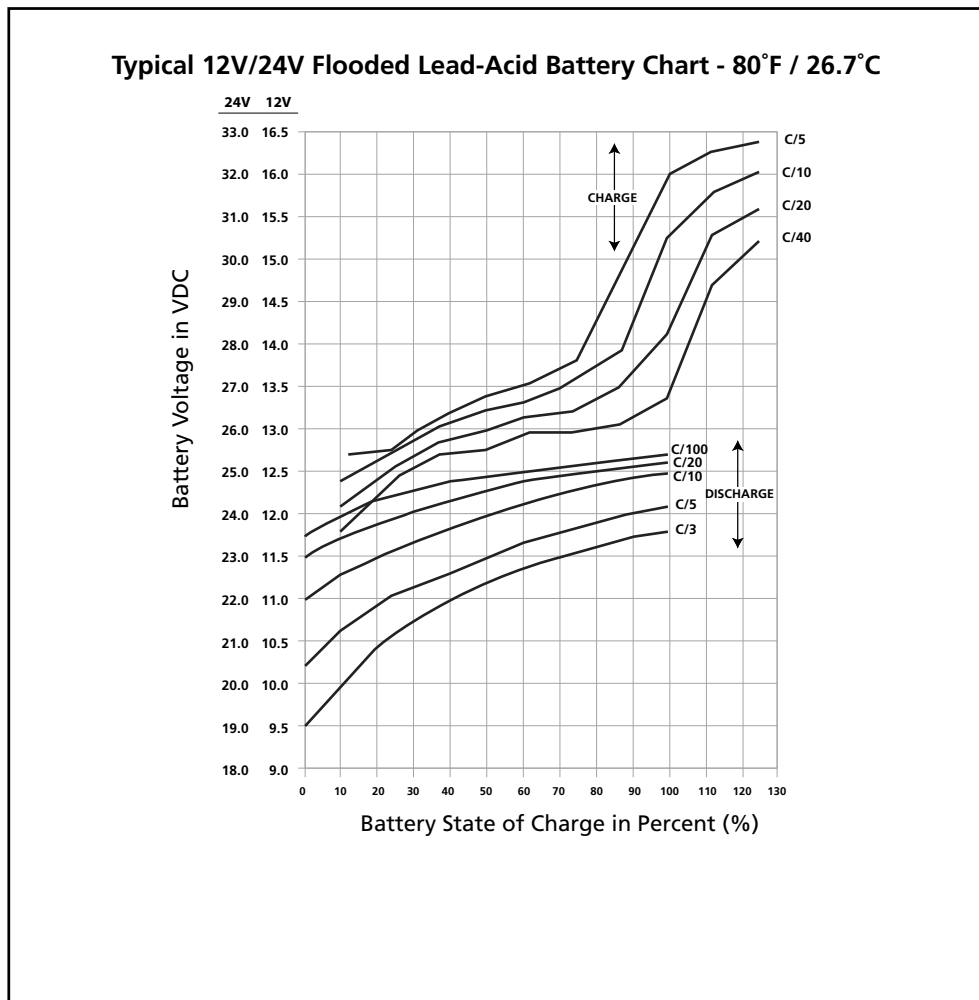

Fig 1.4.1 Charging / Discharging Curves for Typical 12V/24V Flooded Lead Acid Battery
1.4.11.1 Fig 1.4.1 shows examples of State of Charge / Discharge Curves for different C-rates for typical 12V / 24V Lead Acid Battery Bank / Bank at 80°F / 26.7°C. These curves are used to determine the State of Charge / Discharge of the battery based on its terminal voltage.
1.4.11.2 Example of Determining State of Charge (using Fig 1.4.1) when Charging 12V, 100Ah Battery at C-rate of 0.1C or C/10 or 10A: Refer to Charge Curve marked C\10 of the upper 4 curves marked "CHARGE". States of Charge at different battery terminal voltages will be: (a) At 15.3V = 100% charged; (b) At 14.3V = 90% charged; (c) At 13.5V = 70% charged; (d) At 12.5V = 15% charged
1.4.11.3 Example of Determining State of Discharge (using Fig 1.4.1) when Discharging 12V, 100Ah Battery PAck / Bank at C-rate of 0.33C or C/3 or 33.3A: Refer to Charge Curve marked C\3 of the lower 4 curves marked "DISCHARGE". States of Discharge at different battery terminal voltages will be: [a] At 9.5V = 100% discharged (0% charged); [b] At 10.4V = 80% discharged (20% charged): [c] At 11.5V = 28% discharged (72% charged) and [d] 11.75V = 0% discharged (100% charged)
The discharge curves in Fig. 1.4.1 show the % State of Charge versus the terminal voltage of typical Flooded Lead Acid Battery under different charge /discharge currents, i.e. “C-rates” and fixed temperature of 80°F. *(Please note that the X-Axis of the curves shows the % of State of Charge. The % of State of Discharge will be 100% - % State of Charge).*
As stated earlier at Section 1.4.14, the buzzer alarm is triggered when the voltage at the DC input terminals of the inverter has dropped to around 10.5V for a 12V battery pack / bank or 21V for 24V battery bank at C-rate discharge current of C/5 Amps. Please note that the terminal voltage relative to a particular State of Discharge decreases with the rise in the value of the discharge current. For example, terminal voltages for a State of Discharge of 80% (*State of Charge of 20%*) for various discharge currents will be as given at Table 1.4.5 (*Refer to Fig. 1.4.1 for parameters and values shown in Table 1.4.5*):
Inverters are normally provided with a protection to shut down the output of the inverter if the DC voltage at the input terminals of the inverter drops below a threshold of around 10V for a 12V battery or, 20V for 24V battery. Referring to the Discharge Curves given in Fig 1.4.1, the State of Discharge for various C-rate discharge currents for battery voltage of 10V / 20V is as follows: (Please note that the X-Axis of the curves shows the % of State of Charge. The % of State of Discharge will be 100% - % State of Charge):